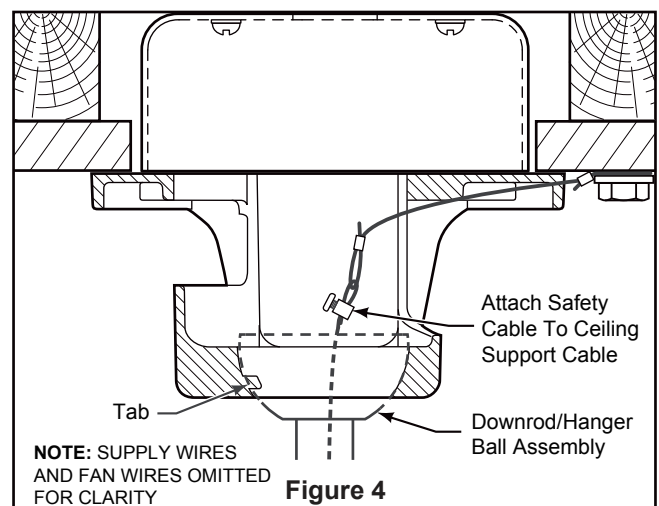

Figure 4
4. Position downrod support and align the clevis pin holes in both parts. Install the clevis pin and secure with the hairpin clip. Tighten the two set screws and locking nuts in the downrod support. (Figure 4)
4. Carefully lift the fan and seat the downrod/hanger ball assembly onto the hanger bracket that was just attached to the outlet box. Be sure the groove in the ball is lined up with tab on the hanger bracket. (Figure 4)
5. Attach the safety cable to ceiling support cable. Slide cable clamp and washer onto safety cable (from fan). Place the end of cable through the loop of ceiling support cable. Pull as much cable through loop as possible. Feed end of cable into clamp hole and firmly tighten screw. (Figure 4)
- 7. Disassemble the housing switch cup/adapter assembly by removing three screws. (Figure 4)